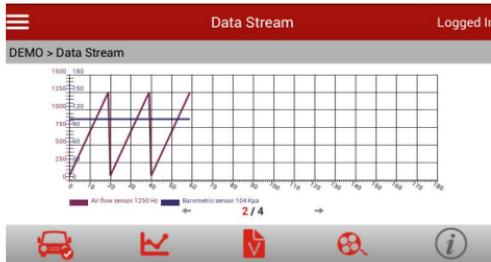

Fig. 5-17
- ✓  **Combine** – this option is mostly used in graph merge status for data comparison. In this case, different items are marked in different colors. See Fig. 5-17.